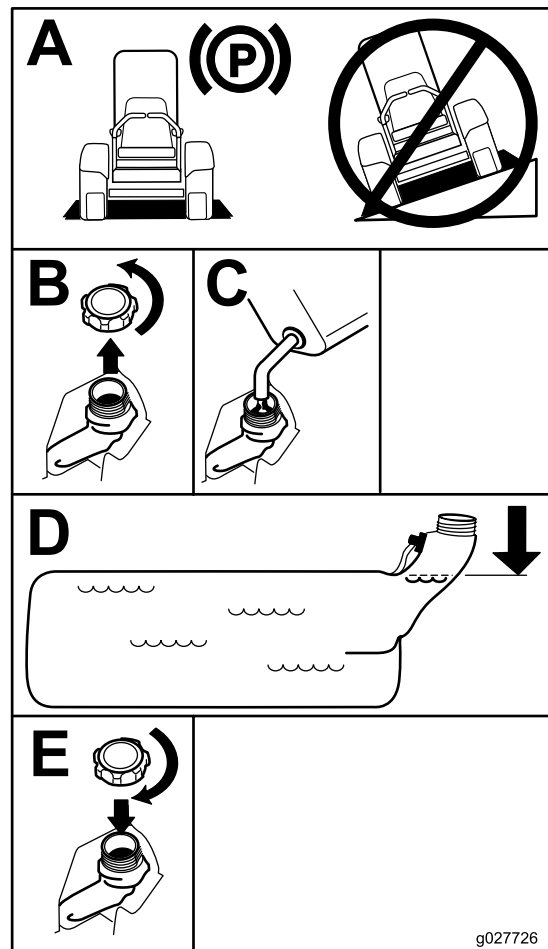

Figure 7
5. Fill the fuel tank to the bottom of the filler neck (Figure 7).